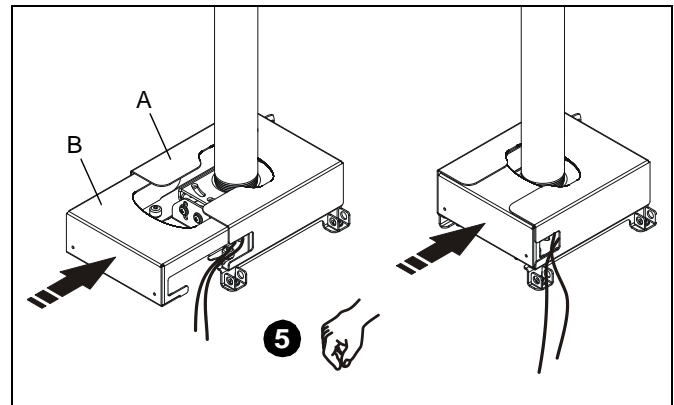

Figure 5
5. Lift cables into opening in enclosure (B), then slide enclosure (B) *fully* into enclosure (A) (See Figure 5).